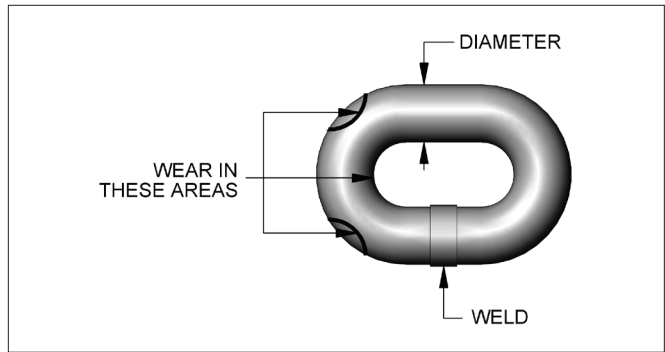

FIGURE 4-2. TYPICAL WEAR ON LINKS
- b. Inspect each link for wear to the diameter of the link (see Figure 4-2). The nominal link diameter is 0.437 inch. If the diameter of any link of chain is worn to less than 0.350, the entire chain must be replaced.